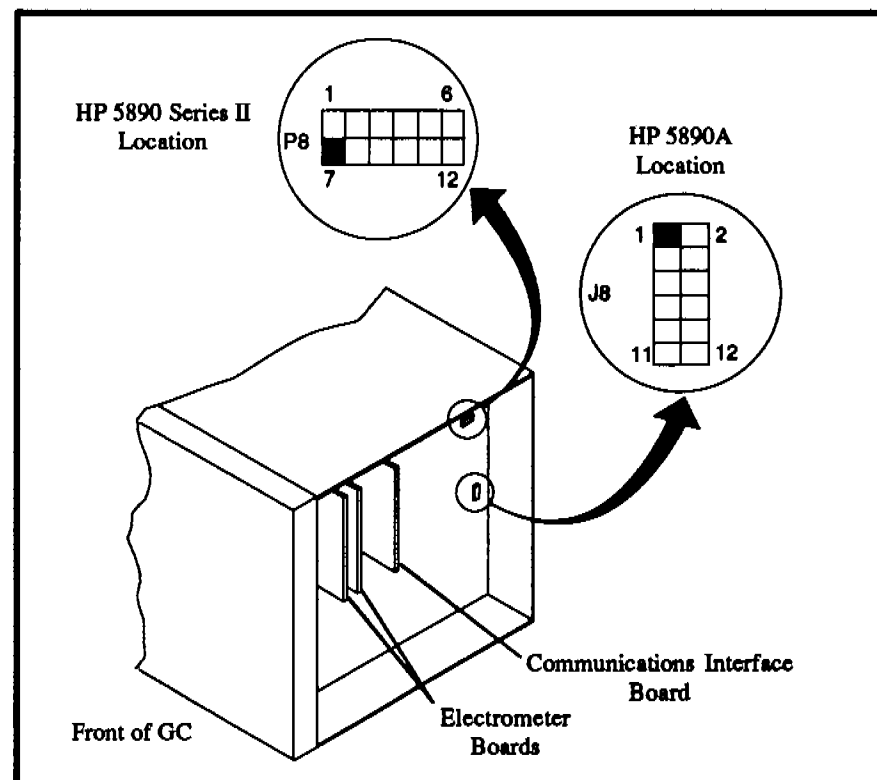

Fig. 3.7 P8/J8 Detail
- Connect the ignitor-power wire (OI Analytical #191866) to the outboard terminal of the ignition switch. Run this wire through the wire cable tray along the back of the GC to P8 (HP 5890 Series II) or J8 (HP 5890A) on the GC motherboard (see Fig. 3.7).
- Carefully disconnect the P8 or J8 plug and insert the Ignitor-power wire terminal into position 7 on P8 or position 1 on J8, as shown in Fig. 3.7. Pull on the plug itself rather than on its wires to prevent breakage. Check for positive latching. Replace the plug in its socket on the motherboard.